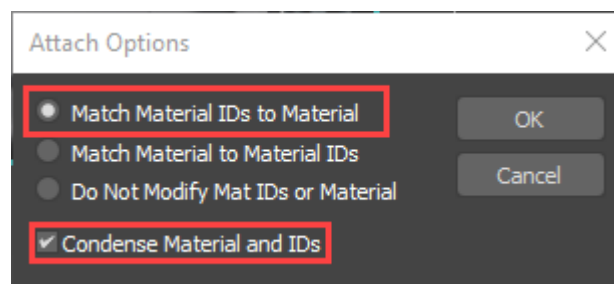

Figure 30.11. **Attach Options** dialog window
5. After that select the **front_tyres** element and the **Attach Options** window popped up. It happened because the attached element has the material that differs from the material of the element to which it is being attached. In such a case select the **Match Material IDs to Material** option and turn on the **Condense Material and IDs** check box and click **OK**, see Figure 30.11. Then the element will be automatically attached.